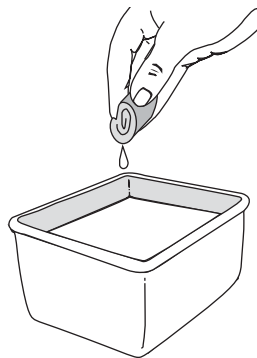

Fig. 26
3. Wash the filter in detergent and water (Fig. 26). Rinse the filter thoroughly. Squeeze out excess water. Allow it to dry completely.